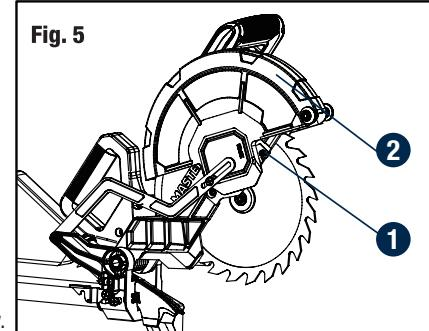

Fig. 5
**REMOVING AND INSTALLING THE BLADE****Removing blade (Fig. 5 to 8)**
- Loosen the guard bracket screw (1) about 4 turns with a cross-head screwdriver. Do not remove this screw from the tool. Lower guard (2) will remain raised due to the position of the guard bracket screw.
#### Installing blade (Fig. 5 to 8)